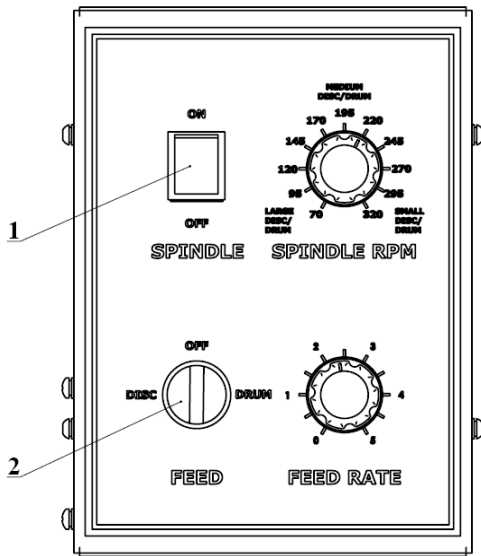

Fig.1
**Spindle Motor Switch** (Item 1, Figure 1)
**Disc/Drum Switch** (Item 2, Figure 1)